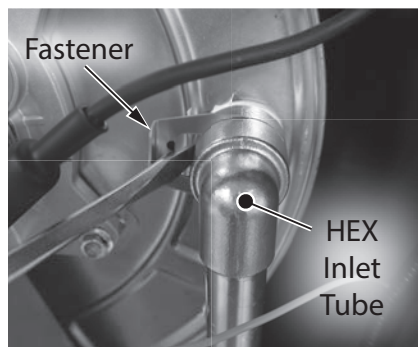

Figure 137 - Remove fastener securing HEX inlet tube
**24** Locate the fastener securing the HEX inlet tube to the heat exchanger as shown in Figure 137. Use a flathead screwdriver to gently pry the fastener free. Remove fastener and place it aside in a safe place for reinstallation.